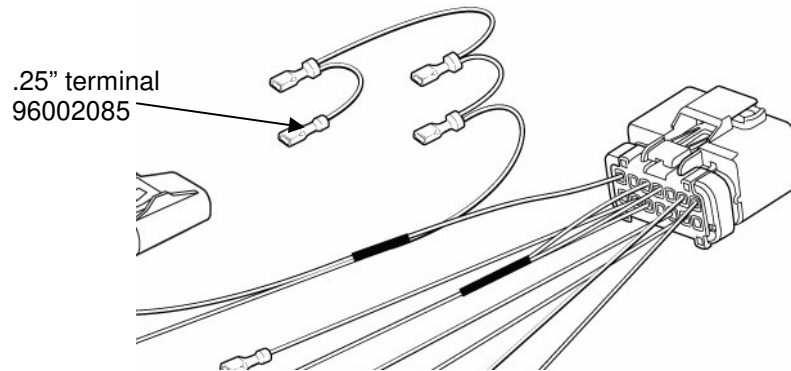

Figure 6
7. Strip the insulation from the wire cut in step 5 and crimp on the supplied .25" terminal 96002085. See figure 6.